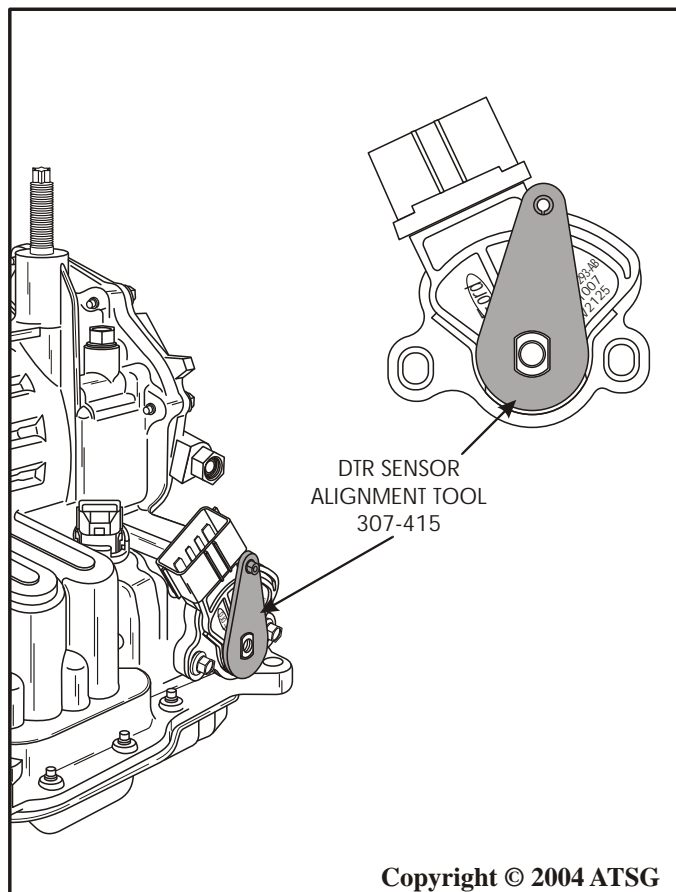

Figure 192
6. Install the transaxle range sensor alignment tool 307-415, as shown in Figure 192.
**Note:** Alignment tool must be over the flats on manual shaft and dowel in the hole in range sensor (See Figure 192).